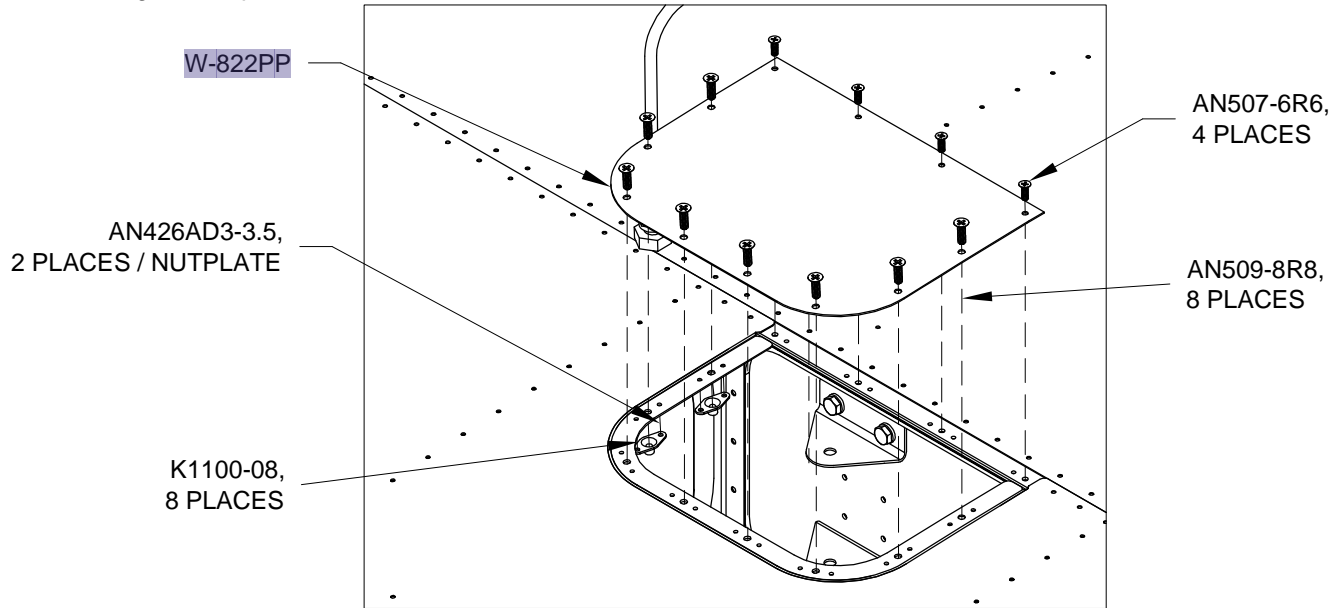

FIGURE 1: TYPICAL WING ACCESS PLATE ATTACH
Step 1: Final-Drill #28 the forward row of holes in the W-822PP Wing Access Plate that will be used to attach the plate to the main spar assembly. See Figure 1. Final-Drill #19 the remaining holes that will attach the wing access plate to the bottom skins. Repeat Step 1 for all three wing access plates.
Step 3: Rivet the nutplates that will attach the W-822PP Wing Access Plates to the bottom wing skins. See Figure 1.